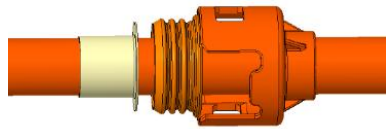

Figure 4: slide components onto cable before processing
Step 1/步骤一 In the order shown in figure 4, slide cover, single wire seal and shield sleeve onto cable sheath, keeping them out of crimping area.
按照图4所示的顺序, 滑动保护盖, 线缆密封圈和屏蔽套管到电缆护套上, 使它们不在压接区域。